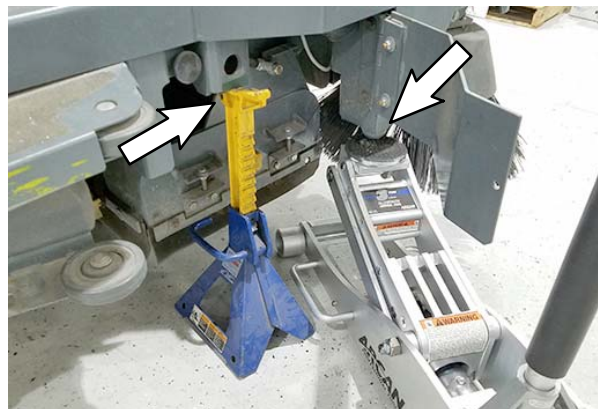

FIG. 2
3. Jack up the front end of the machine enough to access the drive wheel assembly. Place jack stands under the machine and lower the machine onto the jack stands. See *MACHINE JACKING* in the *MAINTENANCE* section of the *OPERATOR MANUAL*. (Fig. 2)